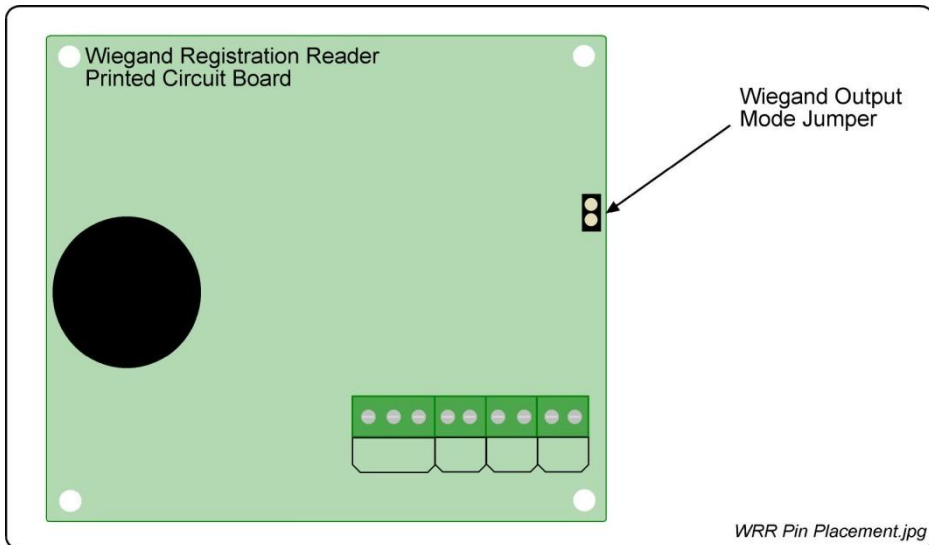

Figure 2: Wiegand Pin Placement
3. Short circuit the Wiegand Output Mode Jumper (as shown in Figure 2) using the 2-Way Programming Pin supplied.